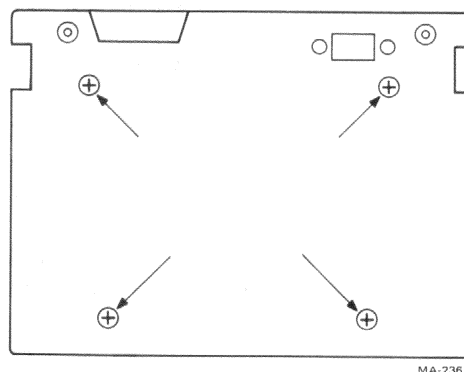

Figure D-1 Baseplate Screw Locations
1. Open the cartridge by removing the four baseplate Phillips head screws (Figure D-1) and set it upright on the work surface with the cover still on.
Open the plastic-base cartridge case by removing the four baseplate Phillips head screws (Figure D-1). Carefully remove the top.